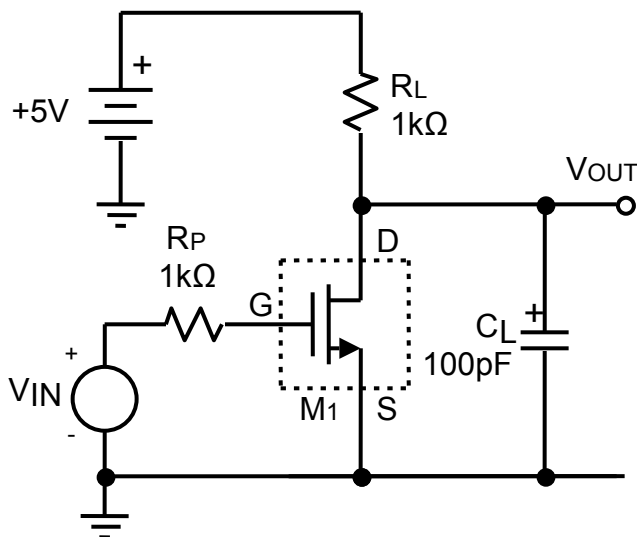

Figure 3-4.
- L12. Add a 100pF load capacitance at the output of the logic inverter, as shown in Fig. 3-4. This capacitance corresponds to the load that the output might “see” due to the capacitance of a PC board trace, cable, bus wiring, or other logic gate inputs.